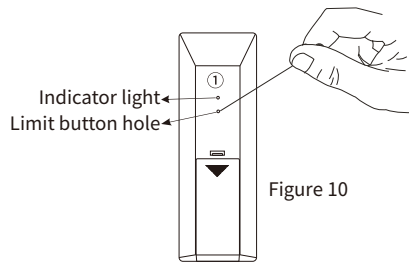
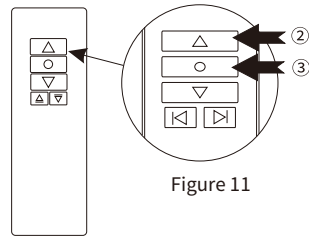

Figure 10
Figure 11
- b. Use a small paper clip or small round needle to insert the electronic positioning setting key hole of the elevator on the back of the remote control (as shown in figure 10), press the electronic positioning setting button of the elevator, the red and blue LEDs will light up, and then press the elevator Rack up button, at this time, after the lift rises to a suitable position, press the stop button of the remote control (as shown in Figure 11), and then press the up button electronic positioning setting button, the red and blue light-emitting diodes are off, and the lift moves up and down. Once, the electronic upper limit setting of the lifting frame is completed.